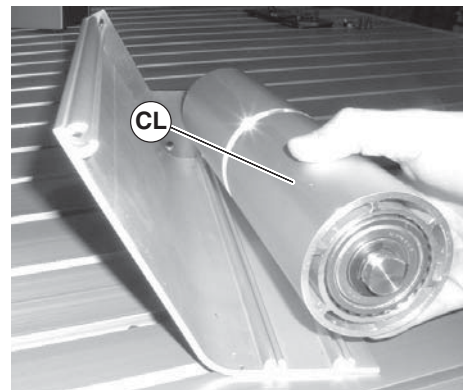

Figure 72
5. Slide the idler pulley assembly (Figure 72, item CL) out of the idler guide side plate on the opposite side.